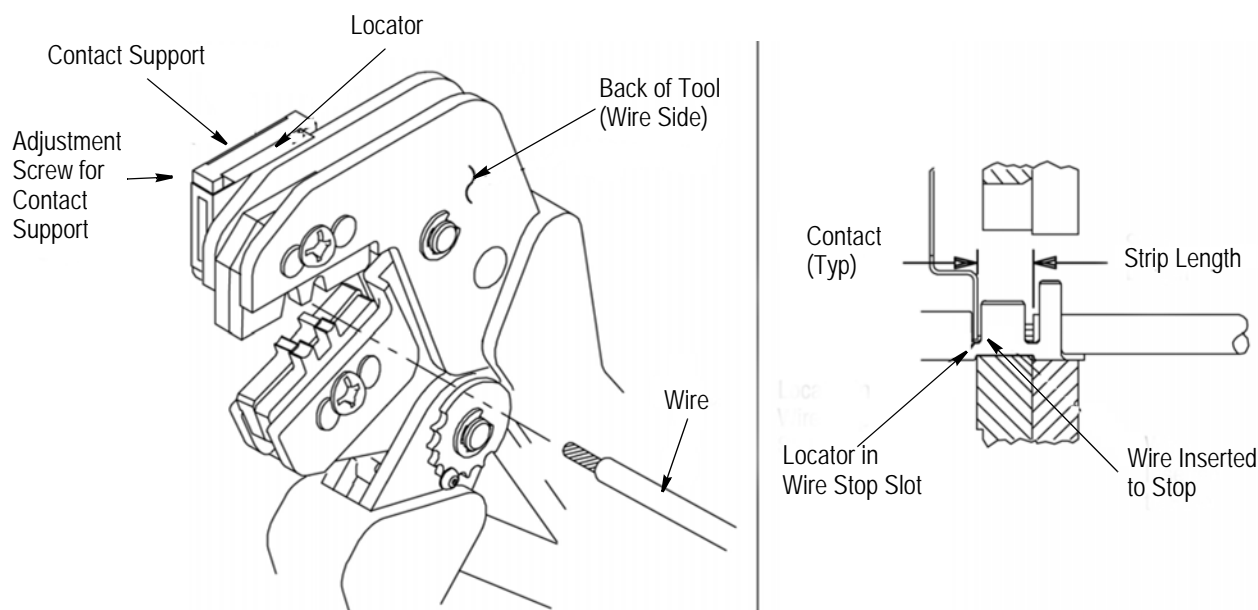

Figure 3
The contact support is preset prior to shipment, but minor adjustment may be necessary. Refer to Figure 3.
Refer to the table in Figure 1 and select wire of the specified size and insulation diameter. Strip the wire to the length indicated in Figure 1, taking care not to nick or cut wire strands. Select an applicable contact and identify the appropriate crimp section according to the wire size markings on the tool. Refer to Figure 3 and proceed as follows:
3. Position the contact so that the mating end of the contact is on the locator side of the tool, and so that the open “U” of the wire and insulation barrels face the top of the tool. Place the contact up into the nest so that the movable locator drops into the slot in the contact. Refer to Figure 3. Butt the front end of the wire barrel against the movable locator.
5. Insert stripped wire into contact insulation and wire barrels until it is butted against the wire stop, as shown in Figure 3.
The crimped contact may stick in the crimping area, but the contact can be easily removed by pushing downward on the top of the locator (see Figure 3).